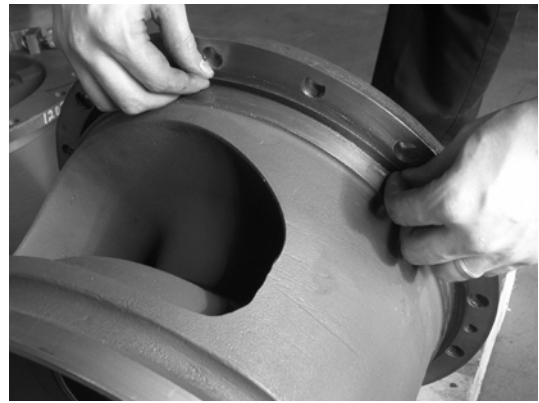

Figure 38: Installing the Gasket on the Coverplate
6. Slide the volute gasket onto the coverplate. (See Figure 38.) Grease may be used to hold the gasket in place.